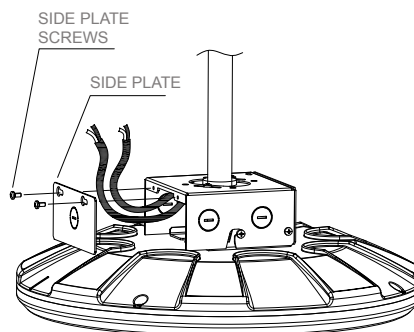

Figure 4
5. Push all wires back into the junction box. Replace the side plate and tight side plate screws. See Figure 4.